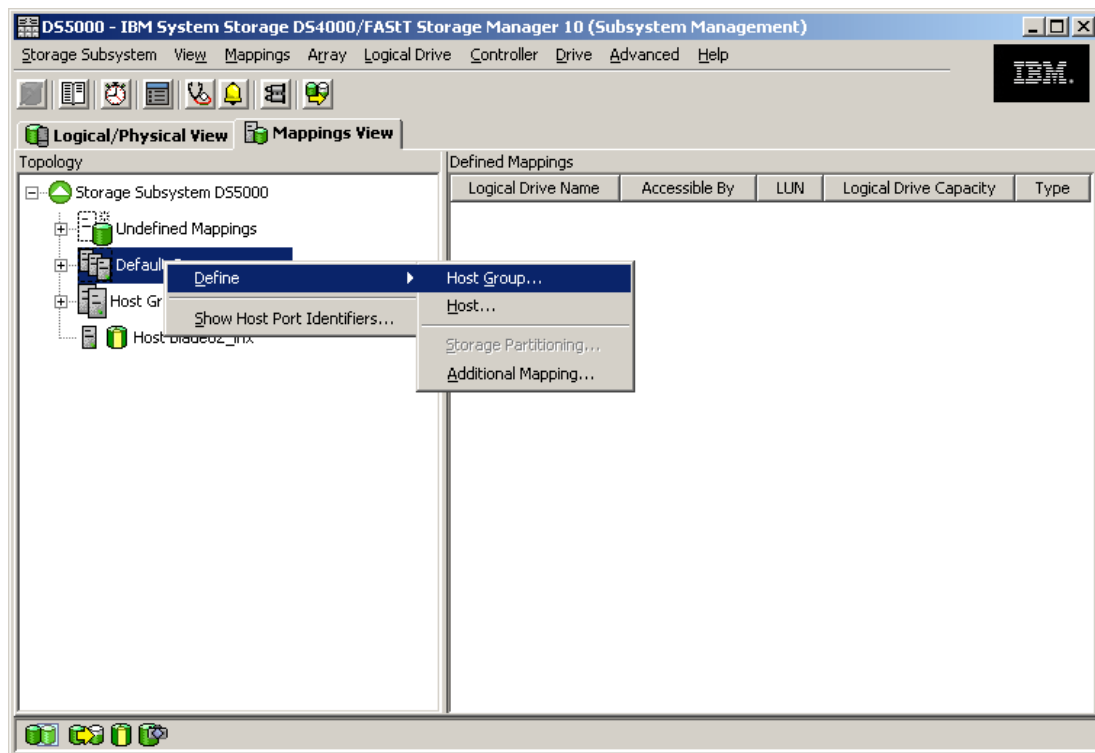

Figure 3-80 Define Host Group
1. Right-click **Default Group** and select **Define** → **Host Group**, as shown in Figure 3-80.